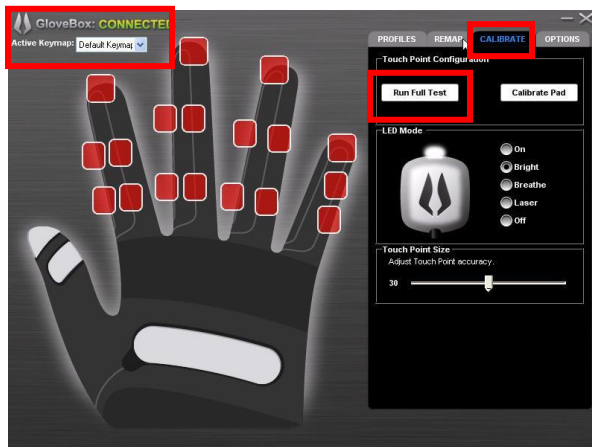

Figure 7. GloveBox CALIBRATE Tab
- As shown on the screen in Figure 7, click **Run Full Test** to calibrate the entire Glove for the first time. The GloveBox software automatically highlights the Touch Points you are to calibrate.